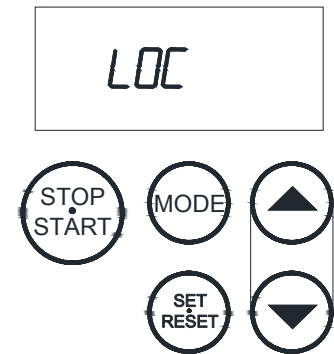

Fig. 12-8 Key lock function
- 3) During operation in the key lock status, "LOC" is indicated as shown in Fig.12-8 when the touch key is pressed.